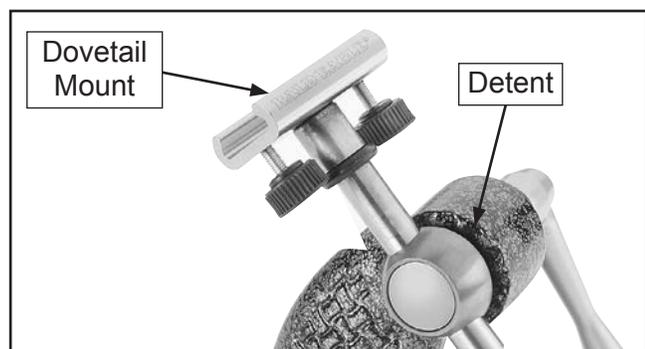

Figure 6. Dovetail mount positioned over detent.
- Loosen lock handle approximately one turn and rotate dovetail mount until it is positioned over a detent (see **Figure 6**).